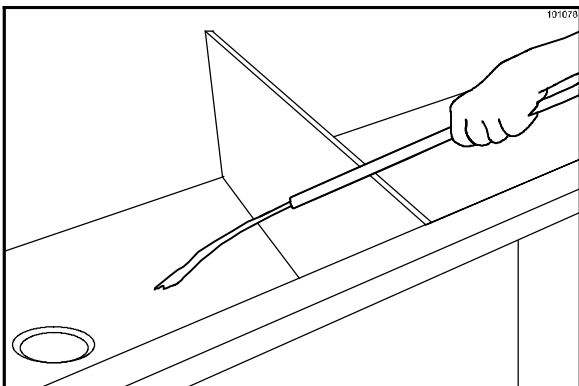

Figure 123
76. Carefully purge a small amount of solution from the dispenser into the utility sink. This helps prevent “sputtering” of solution and possible splashing back onto clothing or eyes. (See Figure 123.)